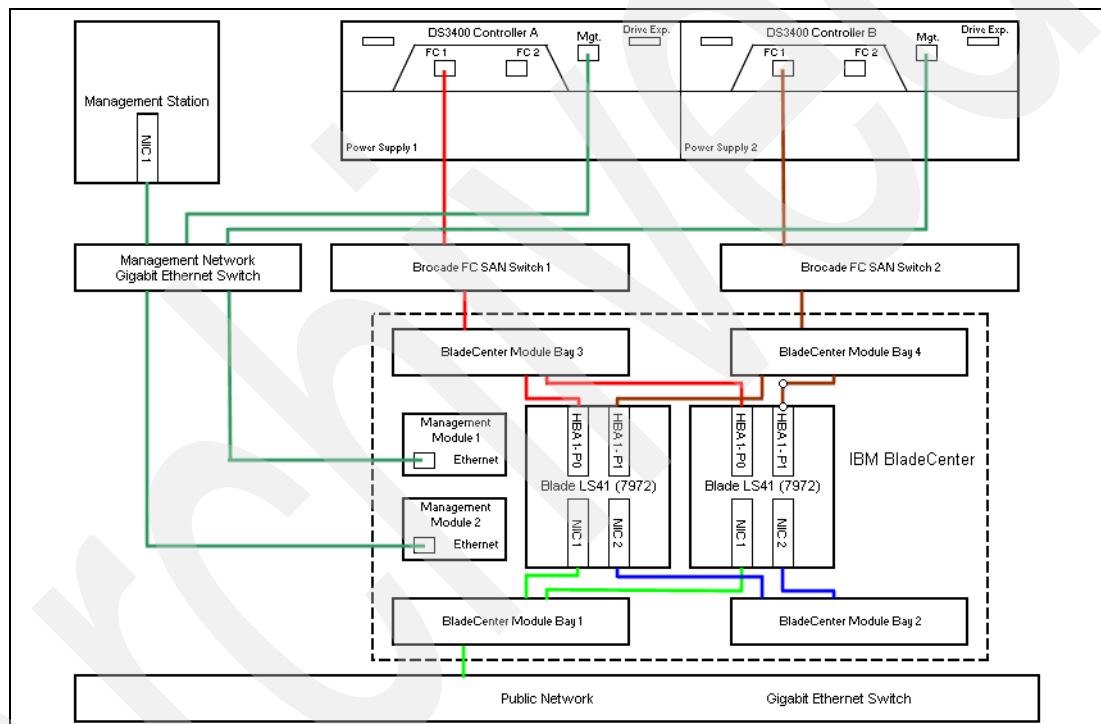

Figure 25-24 FC example environment
1. Install the operating system on a second identical host. After installing the operating system, review the checklists for Microsoft Cluster for specific recommendations. The checklists are available in the online help of Windows Server 2003 or 2008. We assume you are familiar with Microsoft Cluster installation, and provide summary information only here. Our cluster environment is shown in Figure 25-24.